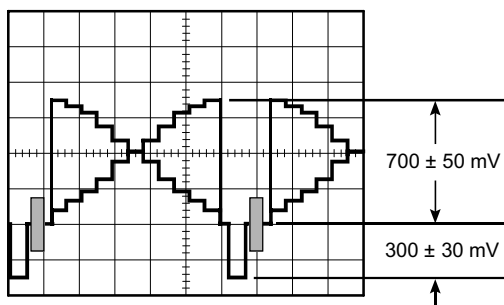

Fig. 4-15
- Confirm that the Video Output signal level becomes 700 ± 50 mV as shown in Fig. 4-15.